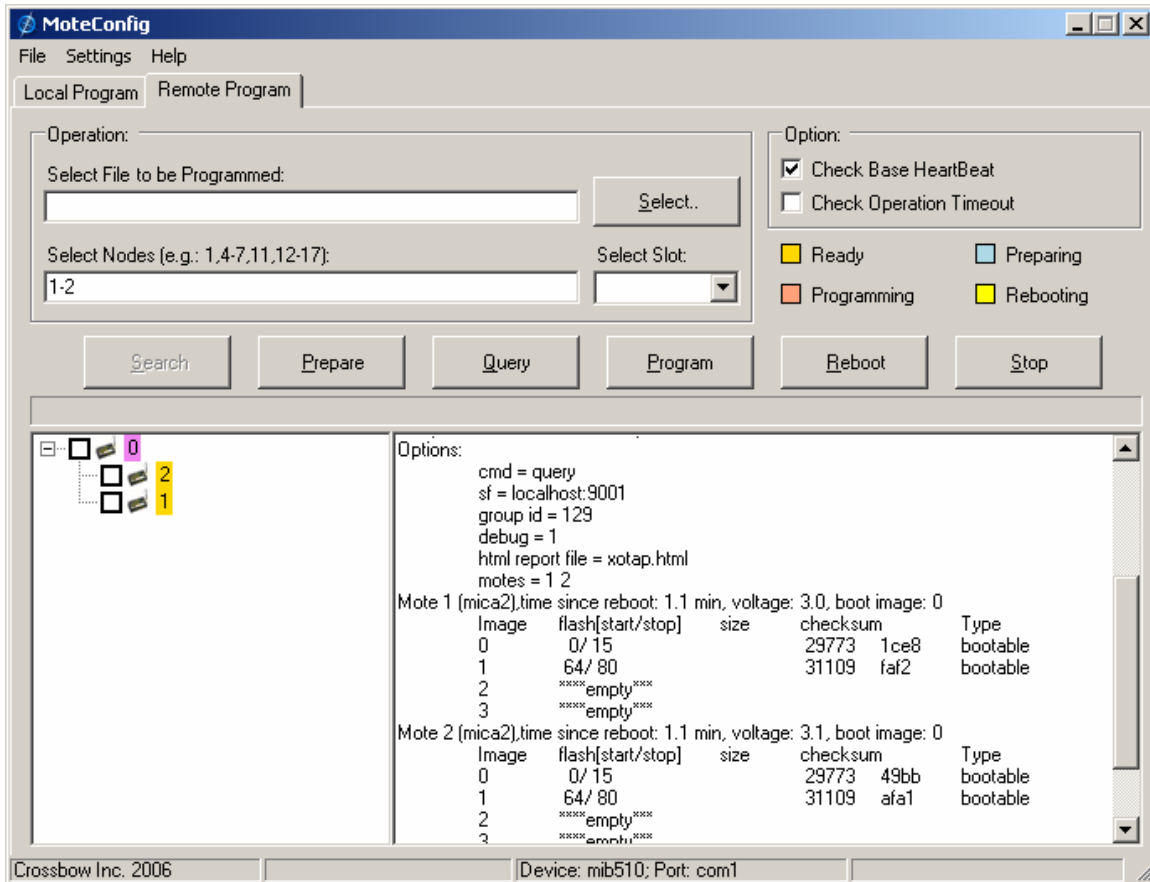

Figure 5-6: Nodes being queried for information.
- a) The Query button allows users to see the available slots and their contents on each mote as shown in Figure 5-6.